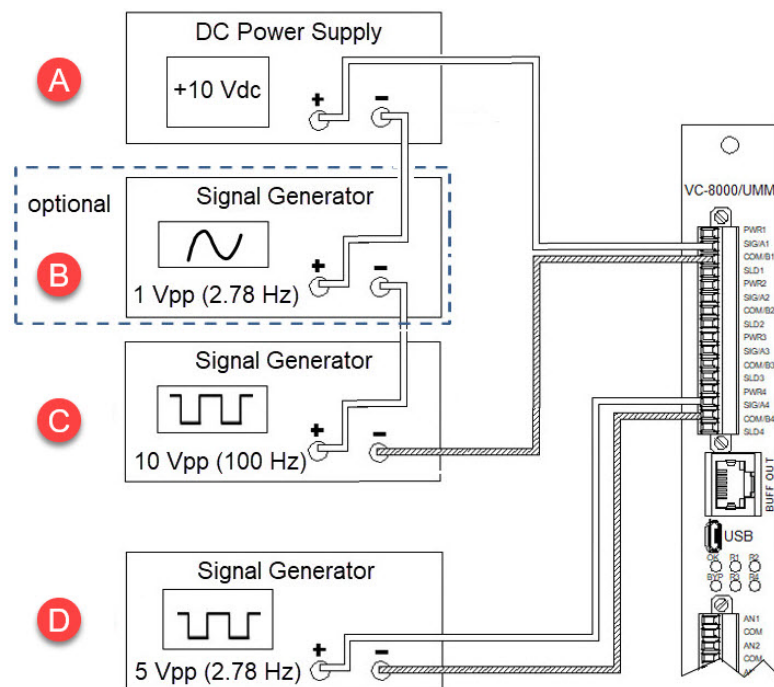

Figure 7-9) Simulate Air Gap plot
To simulate the Air Gap plot the user must have a working knowledge of the SETPOINT PI Adapter software, and the SETPOINT CMS software. These topics are not covered in this manual. Setup the simulation as shown in Figure 7-9) Simulate Air Gap plot. The signal generator (B) is optional but is highly recommended to see a full simulation. If it (B) is not used, the Rotor Profile waveform will be a straight line, and the Air Gap plot will be a perfect circle. Note: (C) and (D) can be in the same 2-Channel function generator, but (B) must be independent.